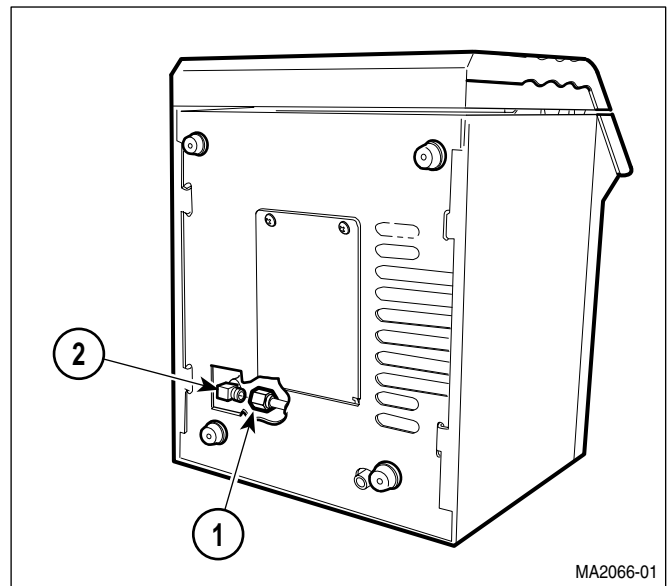
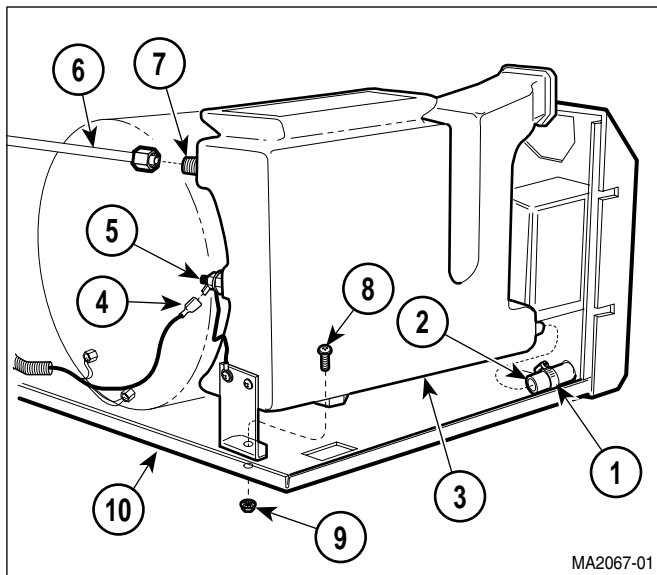

Figure 4-24. Condensing Tank Assembly Fill Tube Disconnection / Connection
Figure 4-25. Condensing Tank Assembly Removal / Installation
- (1) Drain water from condensing tank.
- (2) Turn sterilizer onto its back.
- (3) Disconnect fill tube (1, Figure 4-24) from elbow (2).
- (4) Turn sterilizer upright.
- (5) Remove top cover (Refer to para 4.2).
- (6) Remove back panel (Refer to para 4.5).
- (7) Remove bellows assembly (Refer to para 4.7).
- (8) Loosen hose clamp (1, Figure 4-25) and remove sight/drain tube (2) and hose clamp from condensing tank assembly (3).
(1) Position condensing tank assembly (3, Figure 4-25) on base (10) and secure using screw (8) and locknut (9).
(2) Connect vent tube (6) to fitting (7).
- (3) Connect wire (4) to terminal (5).
- (4) Install hose clamp (1) and sight/drain tube (2) on condensing tank assembly (3). Tighten hose clamp.
- (5) Install bellows assembly (Refer to para 4.7).
- (6) Install back panel (Refer to para 4.5).
- (7) Install top cover (Refer to para 4.2).
- (8) Turn sterilizer onto its side.
- (9) Connect fill tube (1, Figure 4-24) to elbow (2).
- (10) Turn sterilizer upright.
- (11) Refill condensing tank with distilled water.